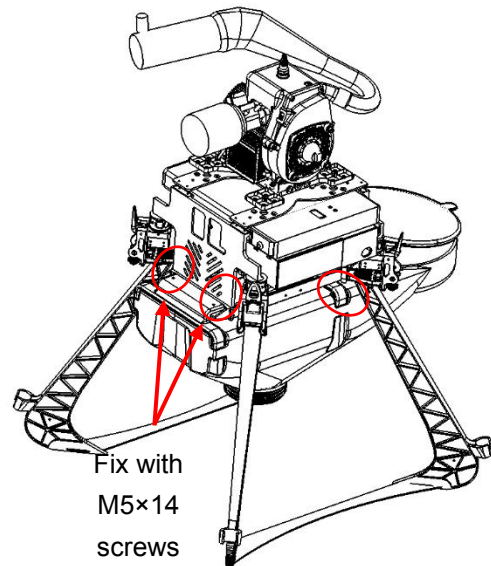

Figure 10
6) Fix the tank module on tank bearing module with $M5 \times 14$ limited screws as figure10.